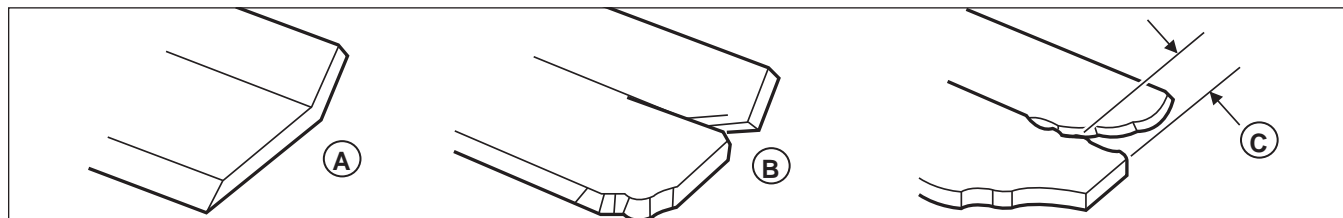

Figure 24. Inspecting the Mower Blade Air Lifts
- B.) The air lifts are excessively eroded (B & C, Figure 24) and the notch (C) is .25" (6,35 mm) deep or greater.